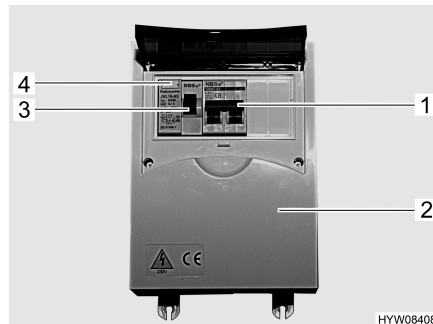

Fig. 52 240 V fuse box with safety cut-out and FI-switch
A fault current protection switch (FI-switch) (Fig. 52,3) in the fuse box (Fig. 52,2) protects the complete vehicle from fault current (0.03 A).
The downstream safety cut-out (10 A) (Fig. 52,1) secures the 240 V sockets, the refrigerator and the transformer/rectifier.
- When the vehicle is connected to the 240 V power supply, press the test button (Fig. 52,4). The fault current protection switch (FI-switch) must be activated.